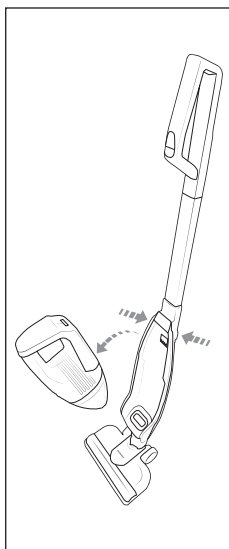

Fig. 4
- 3) To remove the hand element **2** from the handle rod **11**, press both release buttons **13** at the same time (Fig. 4).
- 4) Hold the hand element **2** by the grip **1** and pull it upwards and forwards out of the hand element recess **14** (Fig. 4).